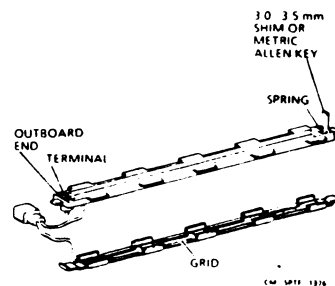

Figure 2. Replacing the Scorotron Wire
##### 1. REPLACE THE CHARGE SCOROTRON WIRE, IF REQUIRED (FIGURE 2).
- (Figure 2) Loop the wire through the hook on the end of the spring and then around the terminal again (wire must be between the washers)